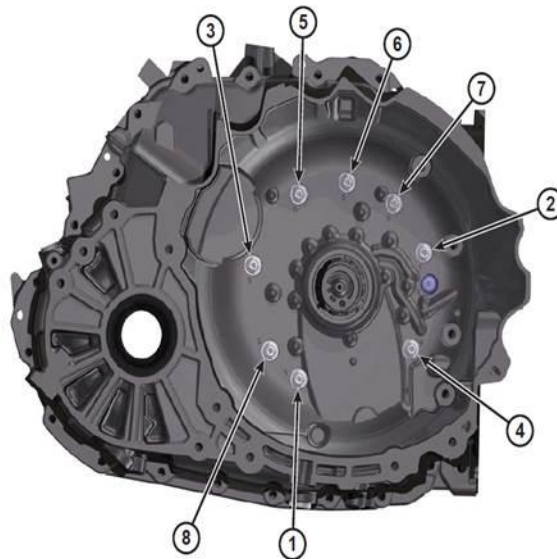

Fig. 23 Inner Bellhousing Bolt Torque Sequence
58. Install the inner bellhousing bolts and torque, in sequence, to 29 Nm (21 Ft Lbs). See (Fig. 23).